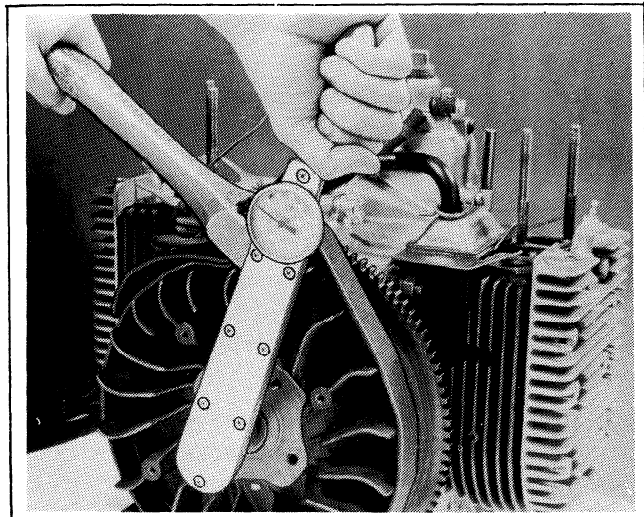

Figure 8-32. Torquing Flywheel Retaining Screw
4. Use a torque wrench to tighten the flywheel retaining screw to 40 ft. lbs. (see Figure 8-32). Hold flywheel with a Kohler strap wrench (part no. 52 455 03) while torquing nut. (See Section 1 "Special Tools".)